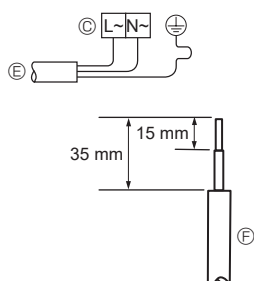
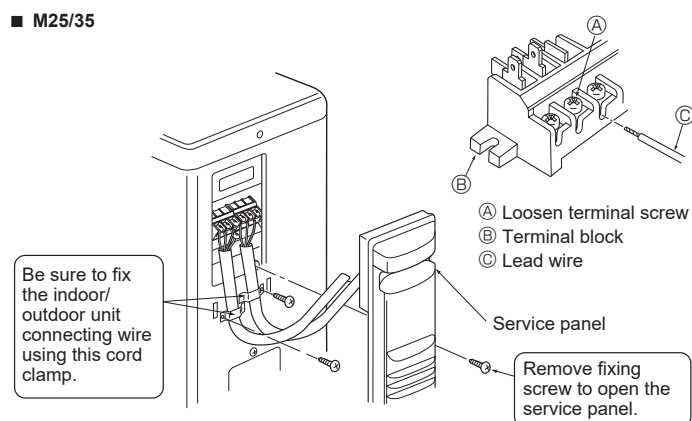

Fig. 6-2
Fig. 6-3
6.1. Outdoor unit (Fig. 6-1, Fig. 6-2, Fig. 6-3, Fig. 6-4, Fig. 6-5)
- ① Remove the service panel.
- ② Wire the cables referring to the Fig. 6-1, Fig. 6-2, Fig. 6-3, Fig. 6-4 and the Fig. 6-5.
- Perform wiring as shown in the diagram to the lower left. (Procure the cable locally) (Fig. 6-2)